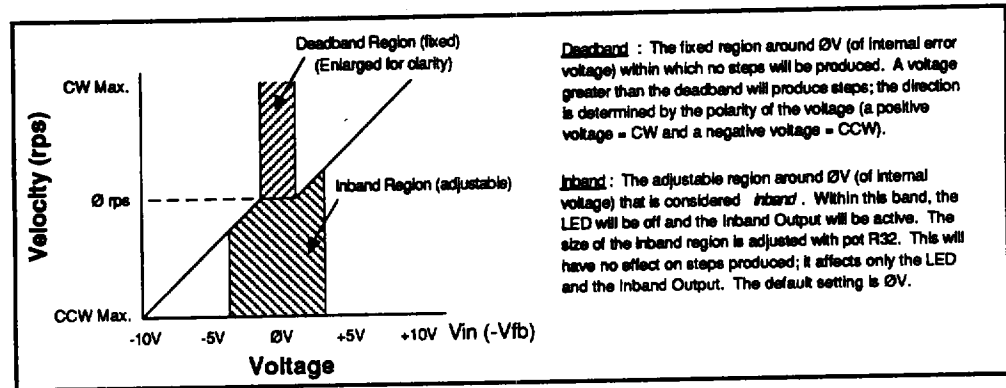

Figure 4-2. Inband and Deadband
**Function:** This control allows you to adjust the range of error (or input) that will be considered *inband* (see Figure 4-2). The inband condition is indicated by the LED (see below), and the inband output. If the control is set at or slightly below the fixed deadband, it extinguishes to indicate *not moving* or *in position*.